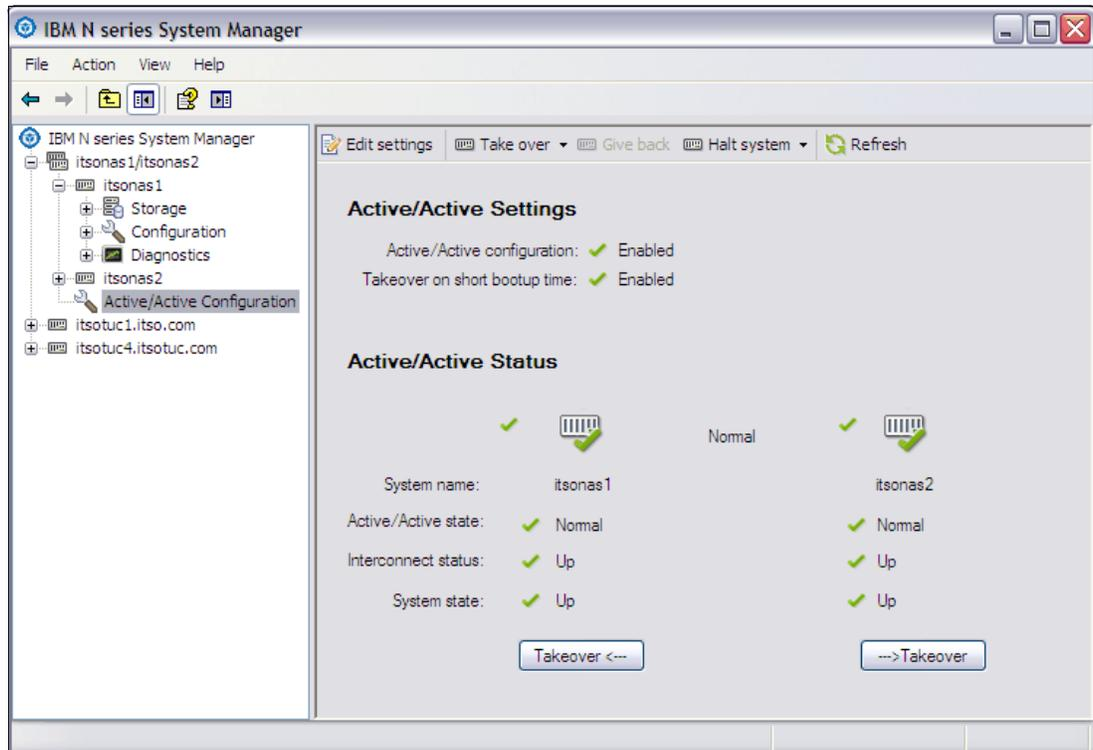

Figure 7-6 System Manager initiating takeover
1. As shown in Figure 7-6, you can perform the takeover by using System Manager and clicking **Active/Active Configuration** → **Takeover**.